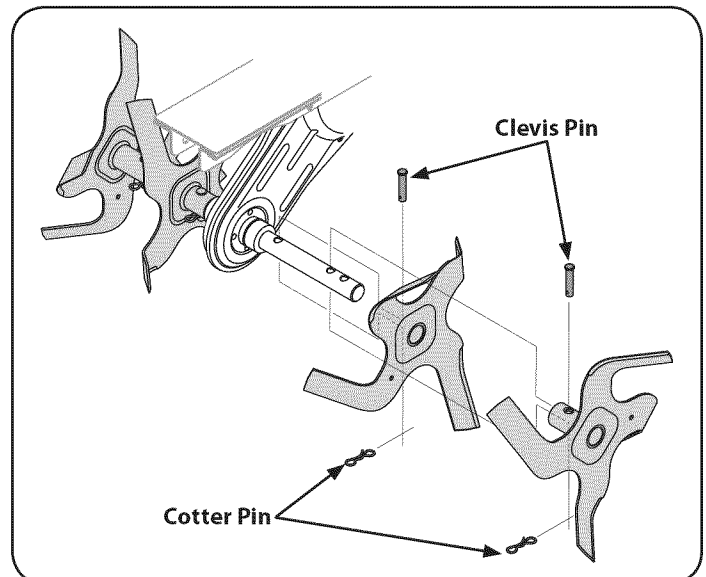

Figure 28
2. To remove a tine assembly, simply remove the cotter pin securing the clevis pin for each tine. See Figure 28.